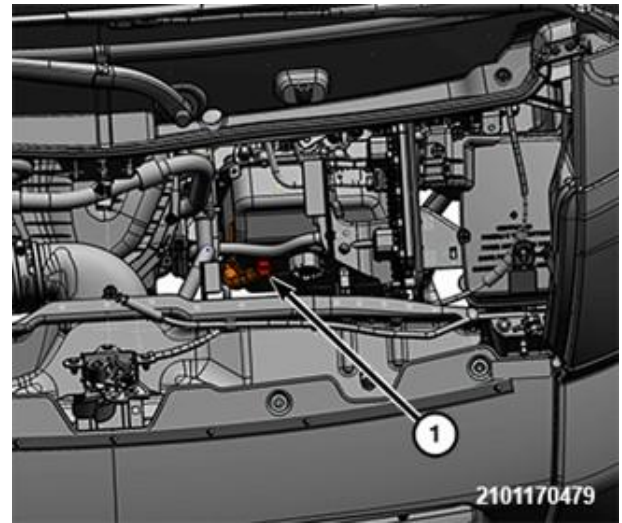

Figure 5 – Dipstick Tube Cap
6. Remove the dipstick tube cap (1) (Figure 5).